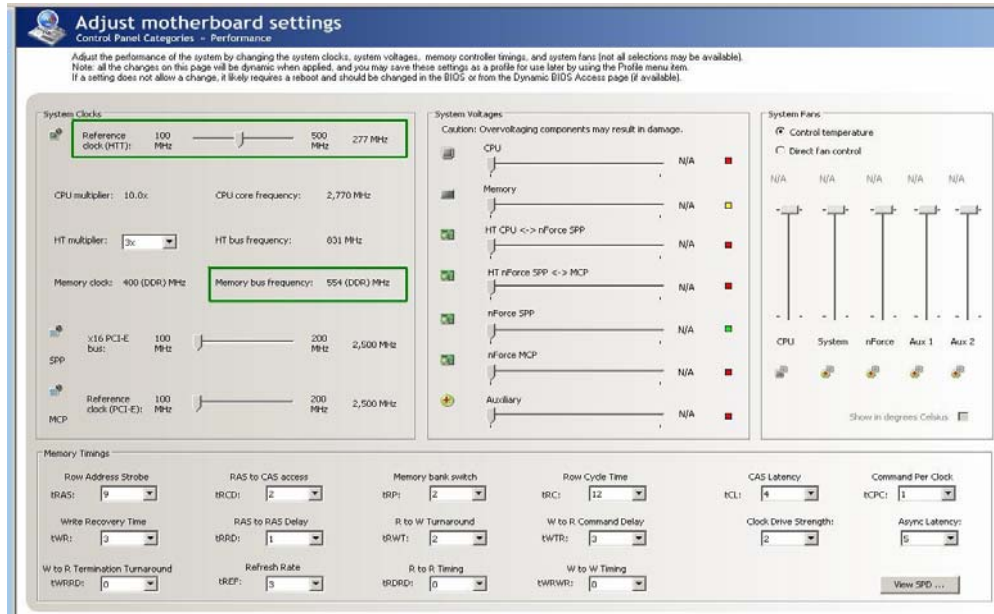

Figure 15. Memory Overclocking using NVIDIA nTune 5.0
- Using NVIDIA nTune 5.0 in Windows, adjust **Reference Clock (HTT)** to directly change memory frequency, shown in Figure 15.
Figure 15 shows how nTune can be used to overclock memory. Adjusting memory timings drive strengths, and possible memory and CPU voltages ever so slightly might be necessary to achieve higher overclockability. Note that the **Clock Drive Strength** is **2** rather than 0. Also, the **Reference clock (HTT)** setting is 277 MHz rather than 300 MHz.